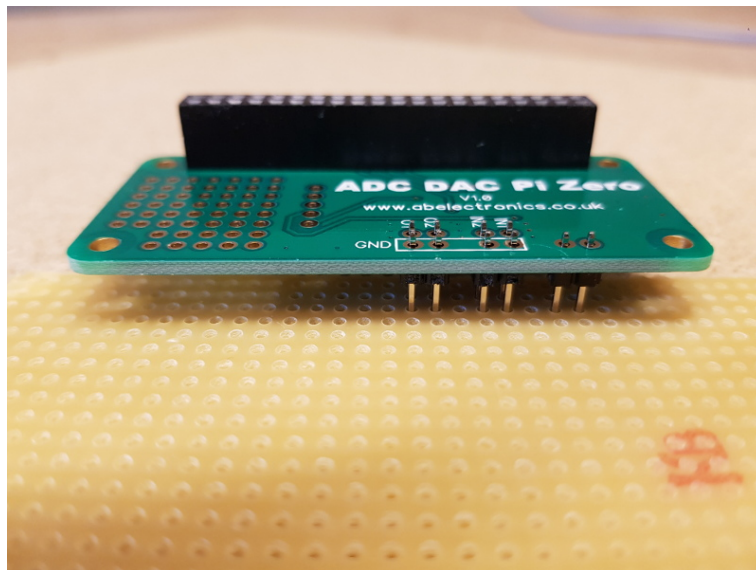

Figure 6: Mounting the extra pins on the ADCDAC. The prototype circuit board below is used only to stabilize the pins while soldering.
- (c) Soldering extra pins to the output and input of the ADCDAC can be a bit tricky. Try to find a prototype circuit board where you can use the holes to stabilize the position of the extra pins during soldering, see Figure 6.